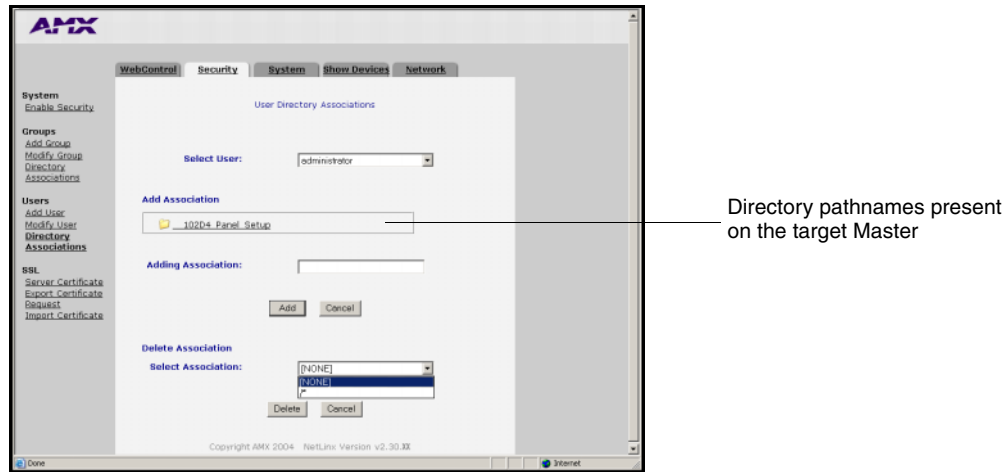

FIG. 44 Security tab - showing the User Directory Associations fields
2. Click the **Directory Associations** link (on the left of the browser window) to populate the Security tab with the directory associations assigned to the selected user (FIG. 44).